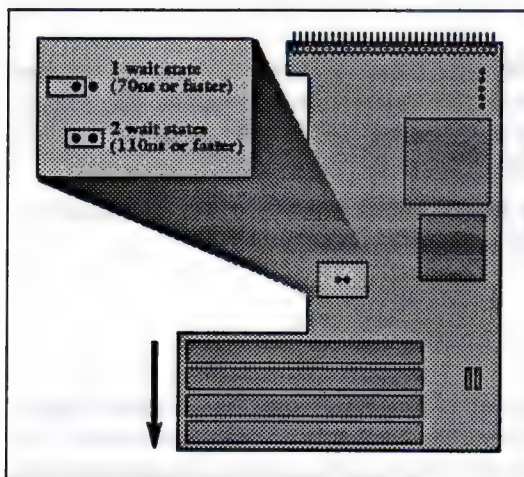

Figure 7: The wait state jumper
2. Set the wait state jumper to correspond to the type of memory you are installing as shown in Figure 7.